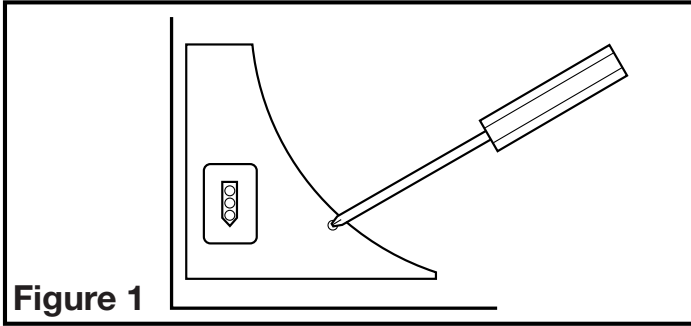

Figure 1
- Remove the wire compartment cover and store in the carton until needed so it does not get damaged or lost (**Figure 1**).